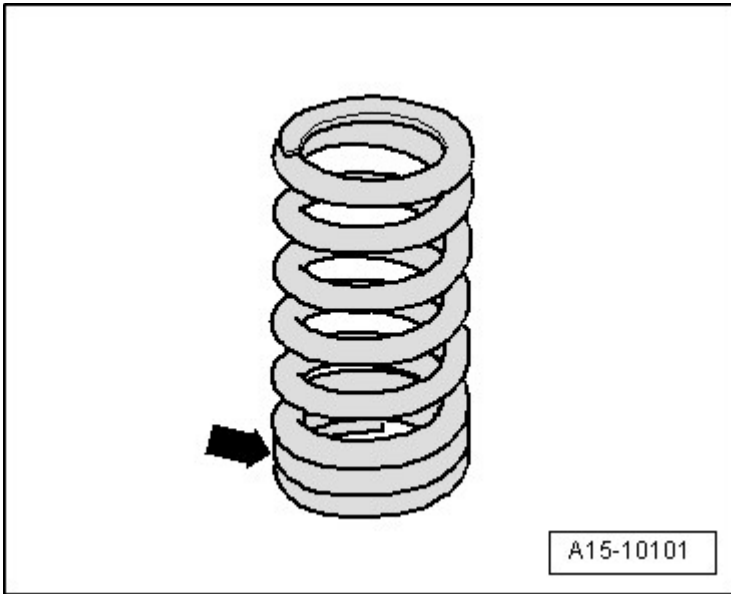

Fig. 22: Identifying Tight Spring Coils
- Installed position, refer to **Fig. 22**